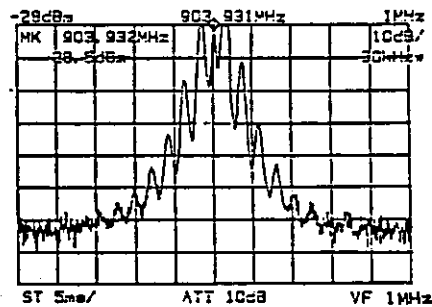

Figure 5-11 Measurement of FM Wave When
- ⑤ Lower the reference level (Figure 5-11).